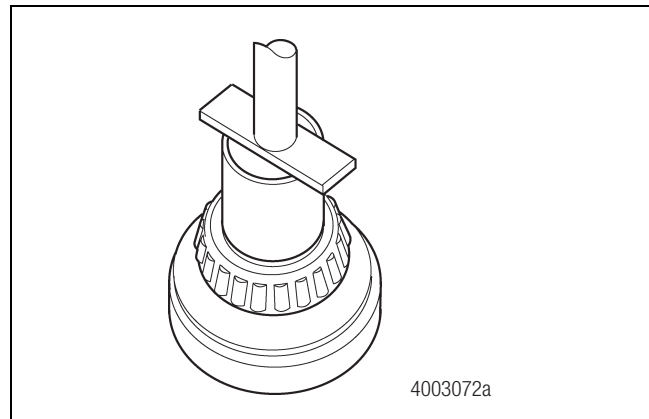

Figure 3.38
2. Press the outer wheel bearing cone onto the ring gear hub. Ensure the bearing is seated squarely on the planetary ring gear hub. Figure 3.38. Wipe off any excess Loctite® retaining compound. Adhere to the retaining compound cure times during the assembly procedure. Apply GL-5, SAE 80W/90, lubricant to the bearing rollers. Refer to Section 6.